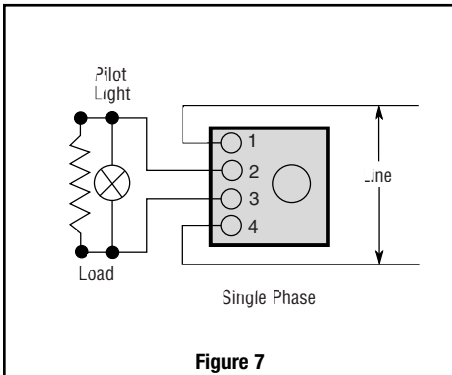

Figure 7
5. Connect wires according to wiring diagrams (Figures 7 thru 11). **Note:** Electrical connections should be made with generous loops of wire — approximately 6" per lead.
15. Rewire replacement thermostat per appropriate wiring diagrams (Figures 7 thru 11).